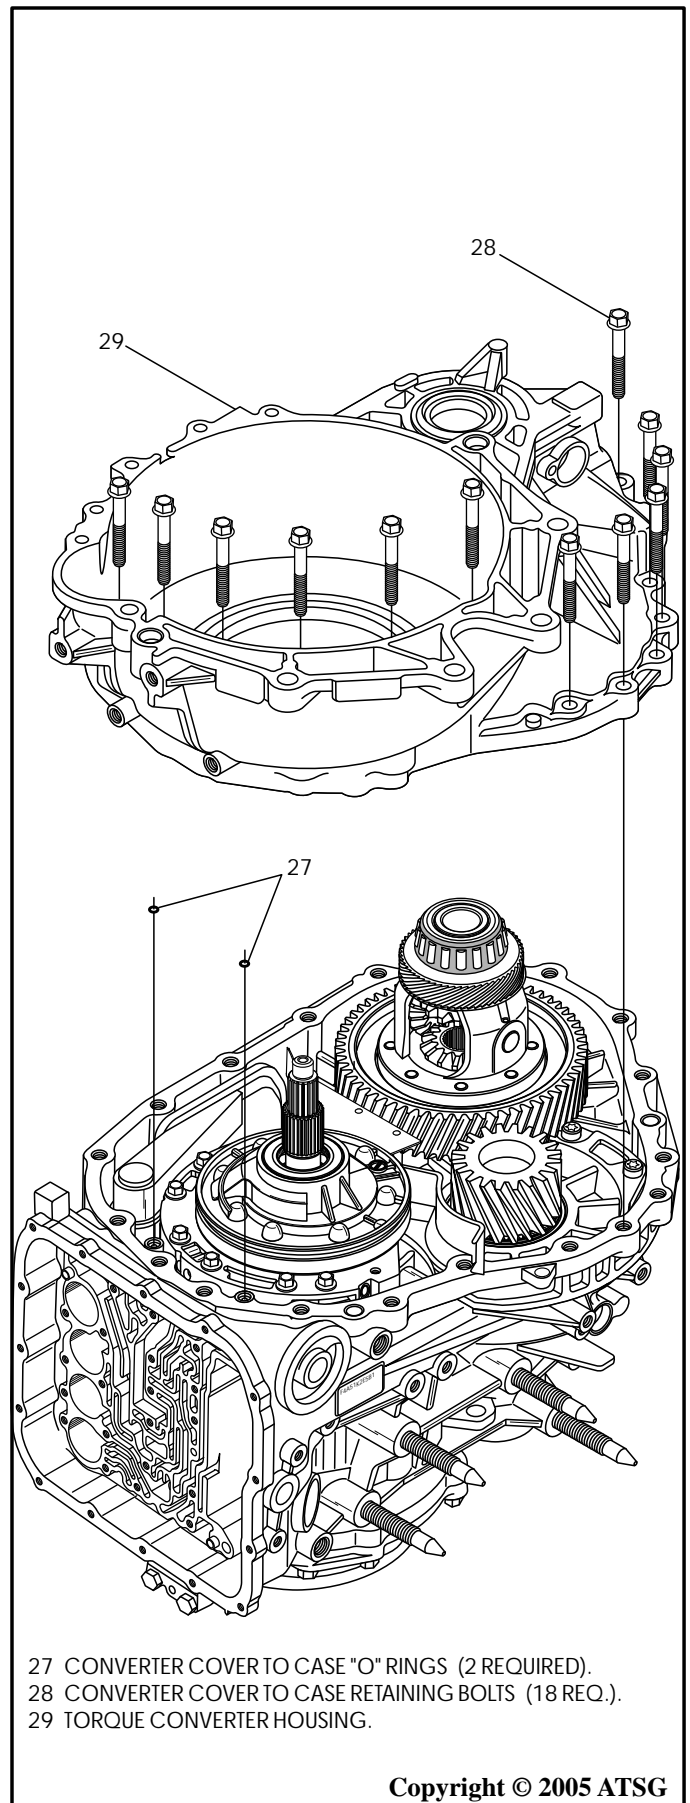

Figure 38
20. Rotate the case on the work bench so that the converter housing is facing up, as shown in Figure 38.
21. Remove the 18 torque converter housing bolts, as shown in Figure 38.
*Note: Six of these bolts are inside of the converter housing, as shown in Figure 38.*
22. Remove and discard the two small "O" rings between the converter housing and the case, as shown in Figure 38.